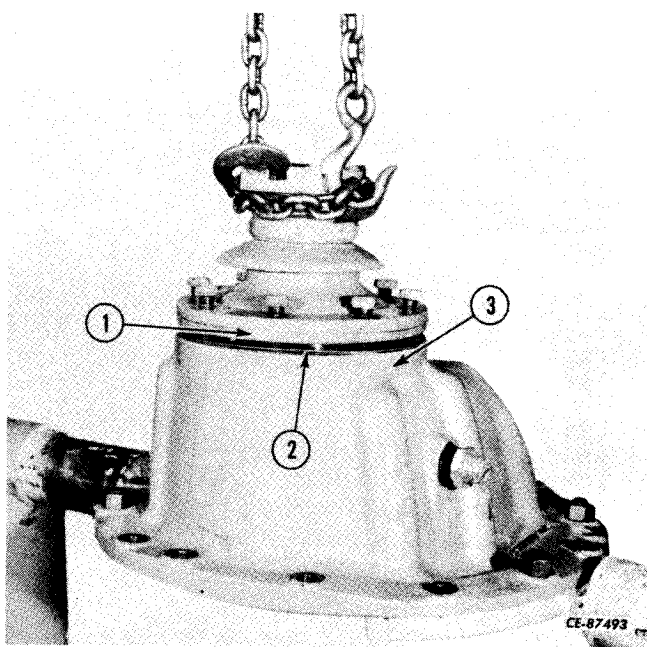

Figure 6-54
Install shim pack (2, Fig. 6-54), removed during disassembly, between the bearing cage (1) and the carrier (3).